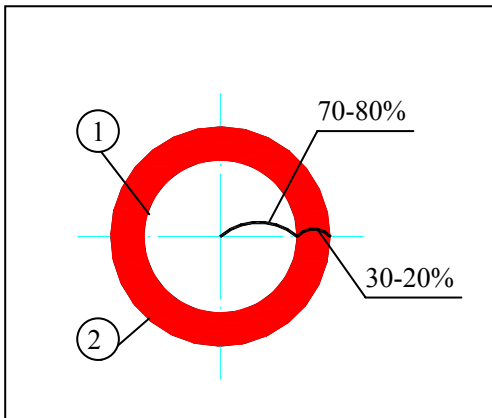

Figure 25
**4-4-2 using the aperture diaphragm (fig.25)**
- To recognize the aperture diaphragm, you could remove the eyepiece if necessary. ( you also could insert in the center telescope )then looked into the viewing tube, you might see a field of view like the figure shown. The proportion could be changed by dialing the aperture adjustment lever according your need. (①is the image of the aperture diaphragm , ② is the edge of the objective)